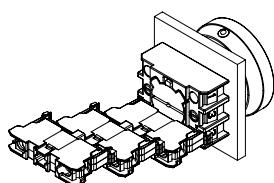
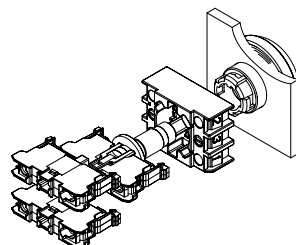

Fig. 4
Fig. 5
2. Mount contact elements of RF contact system by snapping on in positions 1 to 3 to mounting flange (see fig. 4). Middle position (pos. 3) is reserved for mounting lighting elements on devices with lights (see fig. 5).